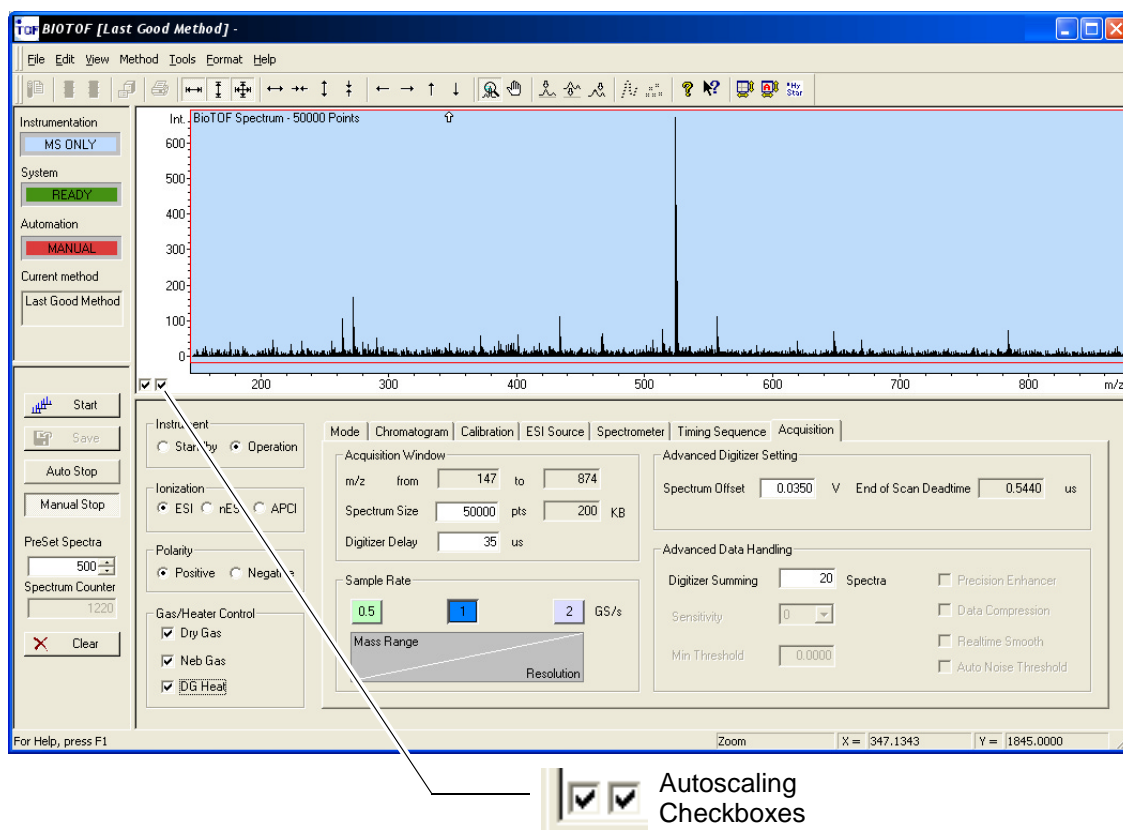

Figure 5-2 BioTOF Window and Autoscaling Checkboxes
- The **Spectra Display** plots the spectra captured by the system. There are a variety of user-selected formats. For example, the graph in Figure 5-2 shows the intensity of ion signals from the detector for each m/z value. The two checkboxes in the bottom left corner of the display control autoscaling for the vertical axis (left) and horizontal axis (right).
Figure 5-2 shows the location of the Autoscaling checkboxes.